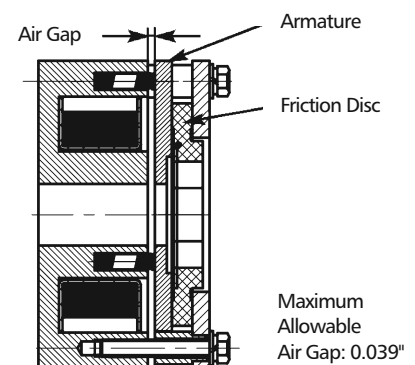

Figure 4 — Checking Brake Gap
- e. Check for worn brake disc by measuring the brake air gap with a feeler gauge. Brake gap larger than the allowable wear limit may cause chatter or failure to release (see Figure 4).
3. Check for worn brake disc by measuring the brake air gap with a feeler gauge (See Figure 4). Brake gap larger than the allowable wear limit may cause chatter or failure to release.